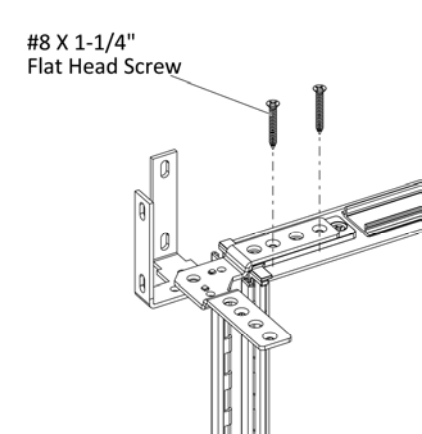

Figure 4
- Position the assembled connectors on top edge of one of the short panels, (Figure 4).